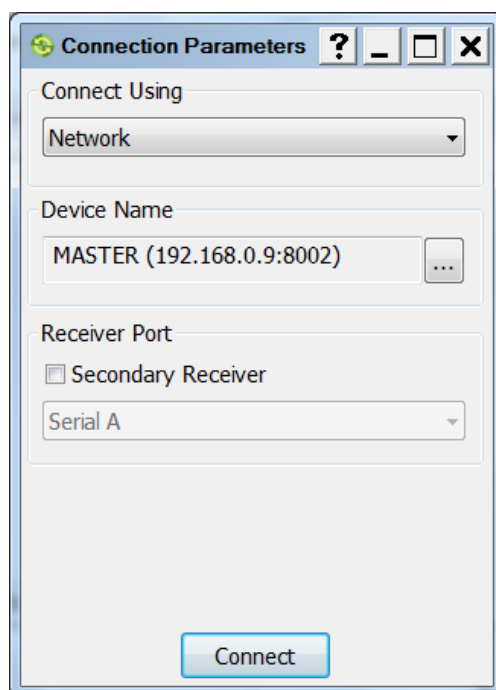

Figure 59: TRU – Ethernet Connection
3. Connect to the receiver using an Ethernet connection (Figure 59).